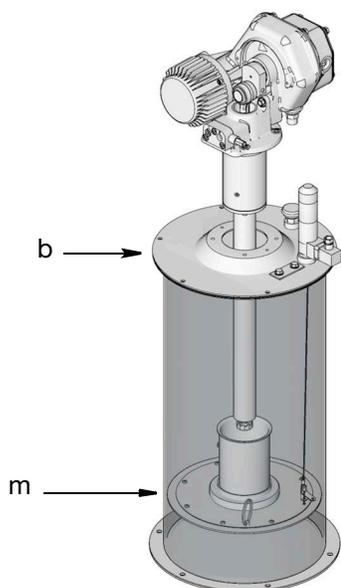

FIG. 10
16. Slide pump down-tube through hole in the center of the reservoir cover (b) and hole in the center of the follower plate (m) as shown in FIG. 10.